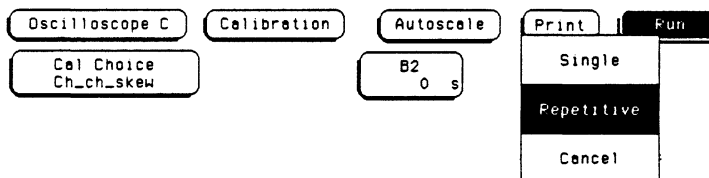

Figure 4-14. Run Option Select
- r. Touch **Run**, then drag finger to **Repetitive**. See figure 4-14.